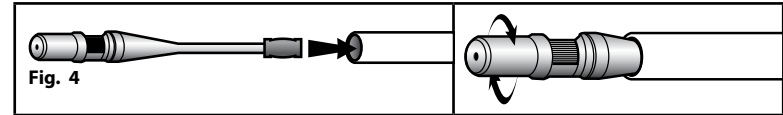

Fig. 4
- Insert boresighter into barrel and turn the boresighter counter-clockwise until the boresighter fits snug inside the barrel (Fig. 4).